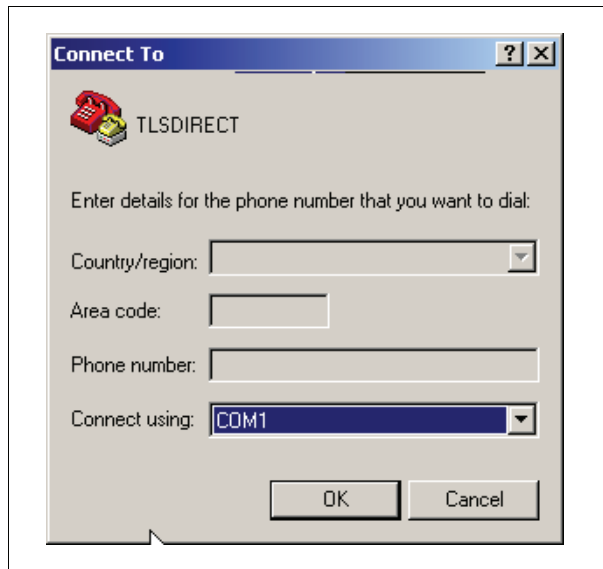

Figure 13. Connect To window
- When the Connect To window appears (Figure 13), depending on your connection method, select either COM1 (If RS-232 port on laptop), USB-Serial Controller (if using USB port on laptop), or Serial I/O PC Card (if using PCMCIA port on laptop) in the 'Connect using' drop down box, then click OK button.